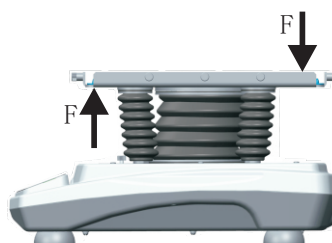

Figure 3
5. Apply upward force at the front of the tray and downward force at the back of the tray to adjust the tray to the desired angle, as shown in figure 3.